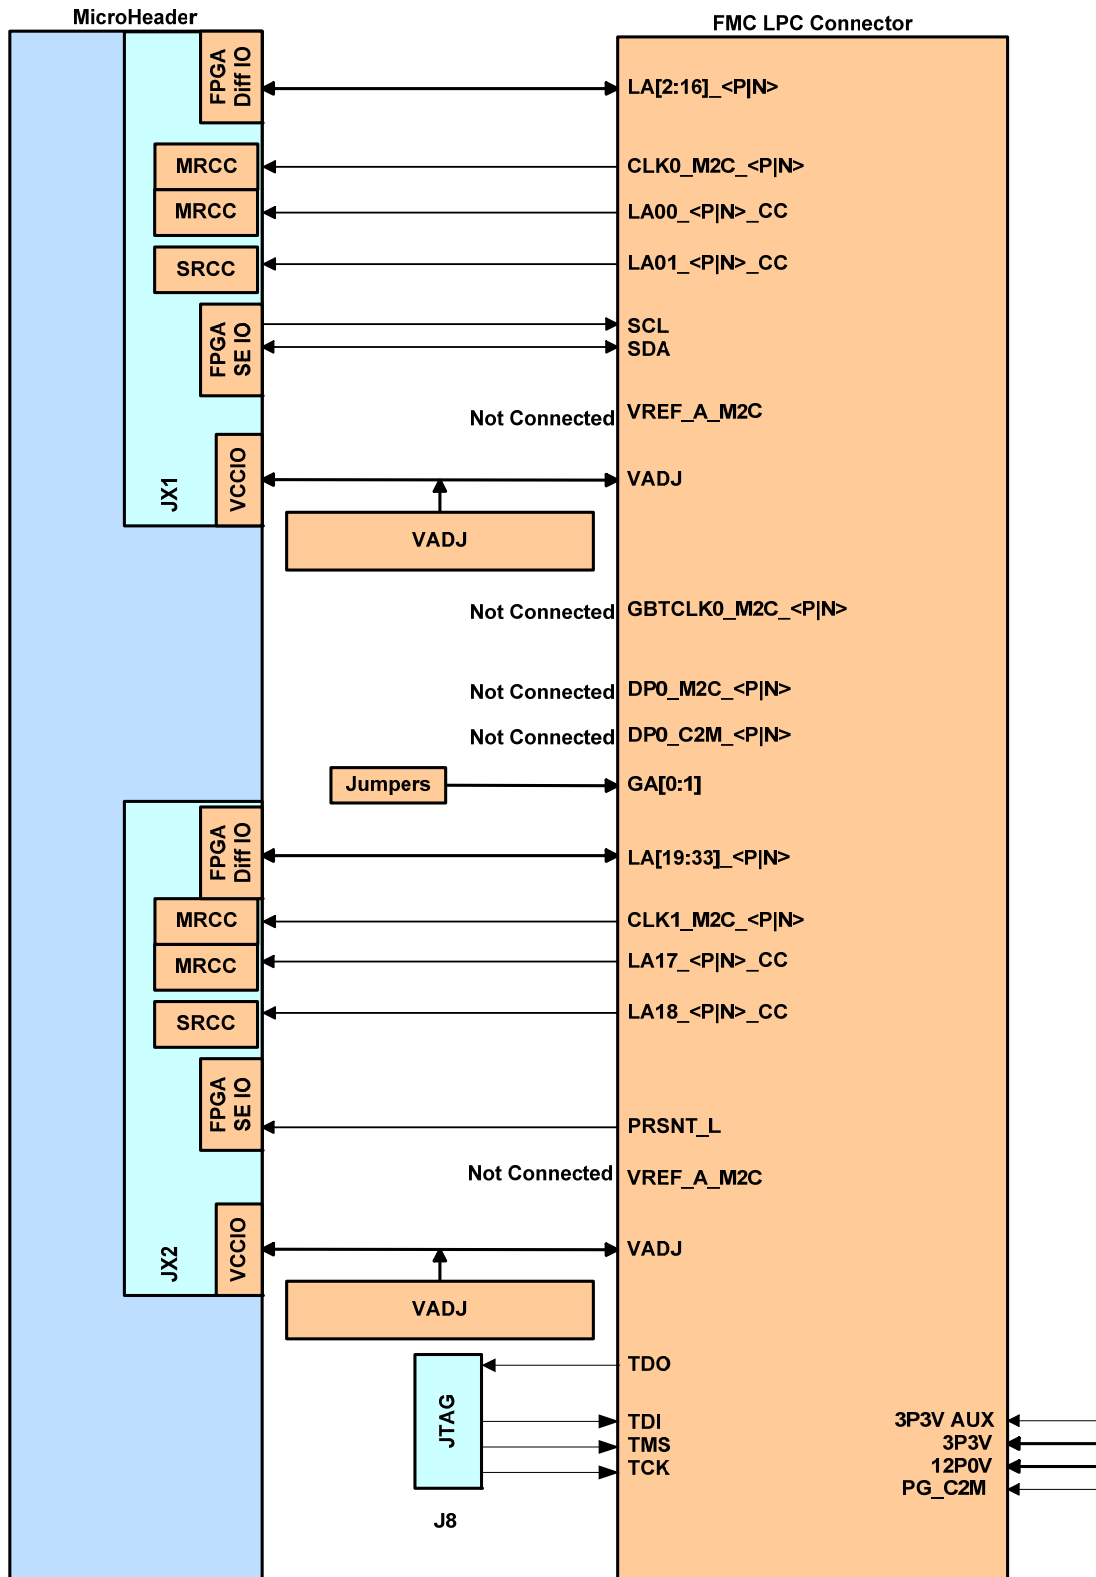

Figure 3 – FMC Connections
A single Low Pin Count (LPC) FMC connector is implemented on the carrier board to support FMC plug-in modules. The block diagram shows the MicroHeader connections to the FMC LPC connectors. See Figure 3 – **FMC Connections** for topology overview. See **Section 2.5** for the FMC MicroHeader (JX) connections.